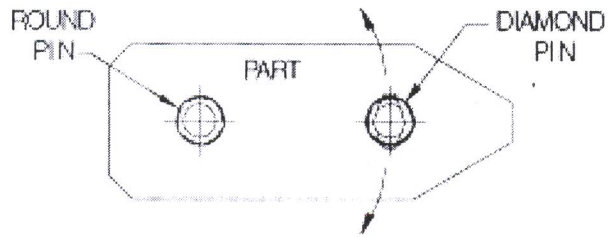

Figure 4
- (c) Why should the Round pin use together with Diamond pin as illustrated in Figure 4? Explain.